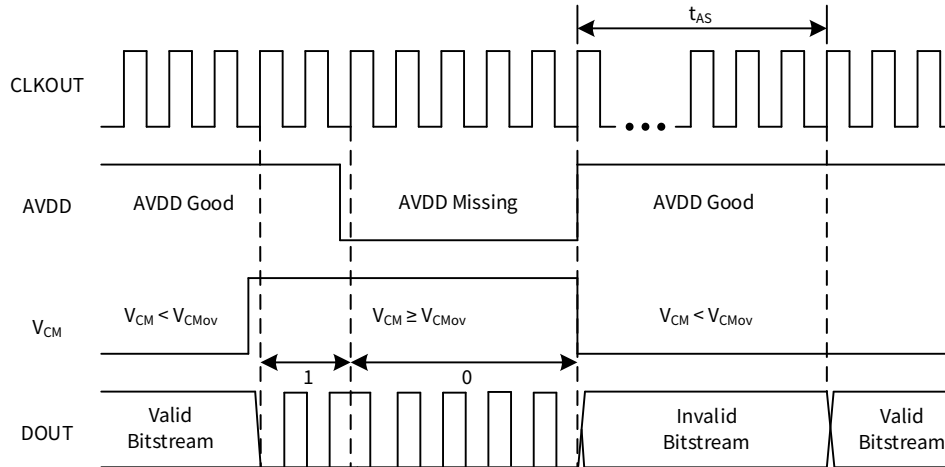

Figure 8.4 Fail-safe Bitstream Output of NSI1303Ex
- When the undervoltage of AVDD is detected ($AVDD < AVDD_{UV}$), DOUT pin output a Manchester coded bitstream of all logic zeros, as shown in Figure 8.4.
- When the overvoltage of common-mode input voltage is detected ($V_{CM} > V_{CMov}$), DOUT pin output a Manchester coded bitstream of all logic ones, as shown in Figure 8.4.